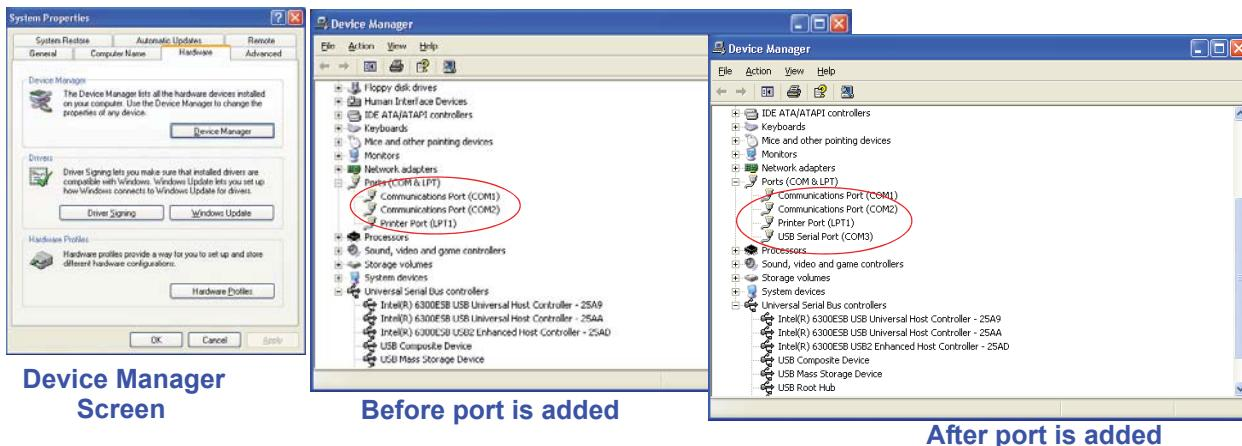

Figure 7-3 Example Device Manager Screens
6. Identify the computer port that has been added to the PC by using the “Properties” of My Computer and examining the COM ports. USB ports are generally added to the bottom of the list and named USB COM port ’x’. Refer to Figure 7-3 for screen examples (Windows XP).